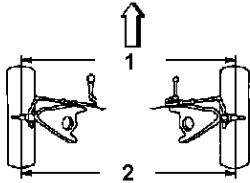

Fig. 9: Identifying Toe
- **Toe-In** - This is when the distance between the front (1) centerline of the tires is shorter than the distance between the rear (2) centerline of the tires. See Fig. 9.
- **Toe-Out** - This is when the distance between the rear (2) centerline of the tires is shorter than the distance between the front (1) centerline of the tires. See Fig. 9.